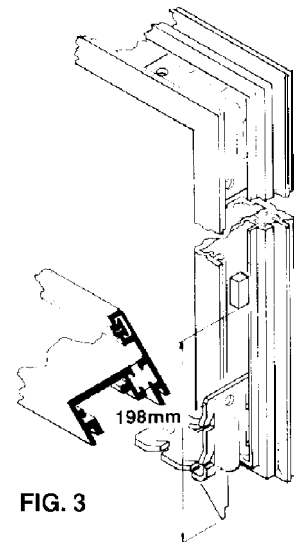

FIG. 3
C. Apply small gap sealant to the ends of the head and cill and push them on to the appropriate cleat making sure that the mitred ends butt tightly. FIG. 3. Tap lightly with a rubber faced mallet if necessary. Secure the cleats by tightening the screws.